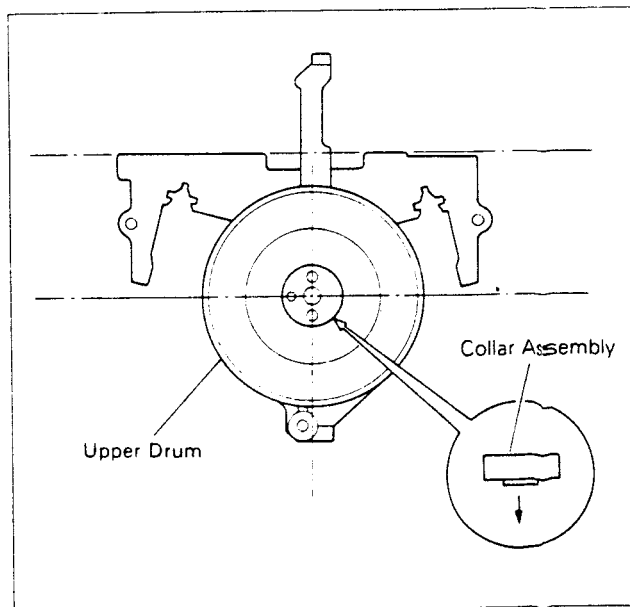

Fig. 2-4-7
- 3) Note the top and bottom of the Collar Assembly and determine the position as indicated in Fig. 2-4-7.